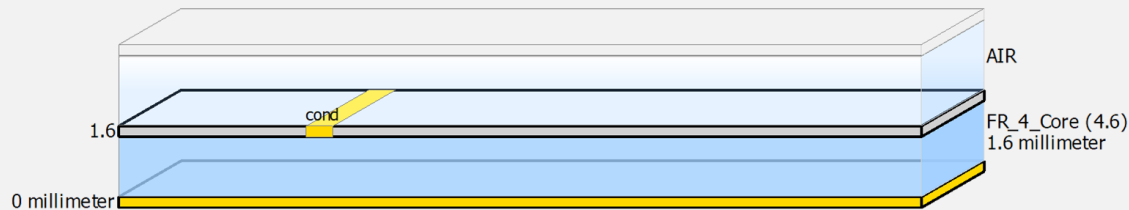

Figure 28. Substrate definition
- Go to the **EM Setup** window. In the Substrate section, click **New**. Create a new substrate with the 25 mil Alumina as the template. Define the substrate with the parameters (substrate height,  $\epsilon_r$ , and TanD) from step 1. Define the material as Copper (select it from **Add from Database list**). The definition is shown in Figures 28, 29, and 30.